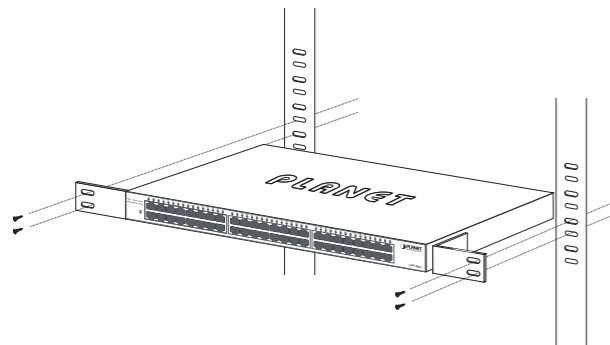

Figure 4: Mounting the Gigabit Ethernet Switch in a Rack
Step 5: After the brackets are attached to the Gigabit Ethernet Switch, use suitable screws to securely attach the brackets to the rack, as shown in Figure 4.